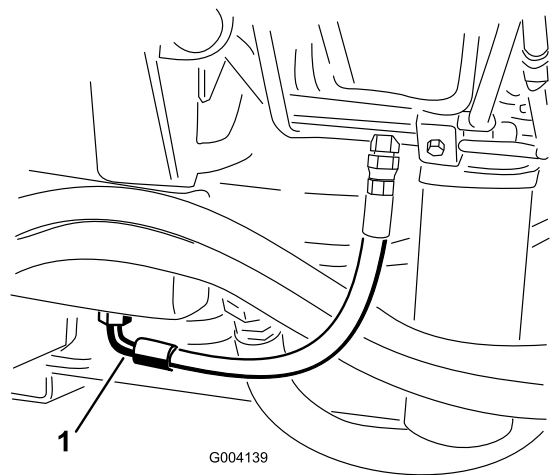

Figure 86
2. Place a large drain pan under the fitting secured to the bottom of the hydraulic fluid reservoir (Figure 86).